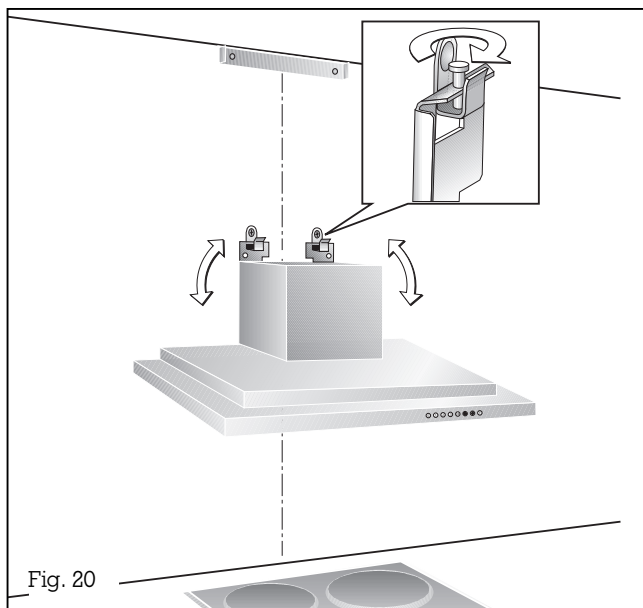

Fig. 20
- Hang the hood on the two hooks. Adjust the suspended element with the recessed head screw and align the hood using a spirit level (Fig. 20).